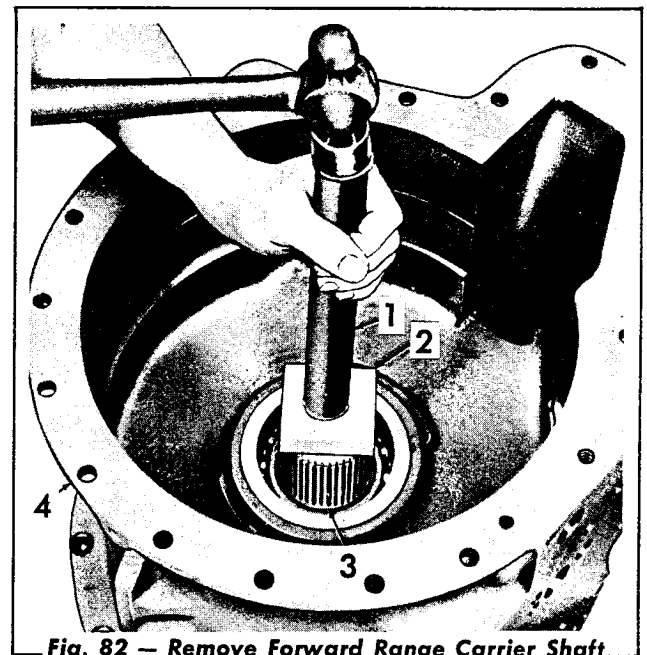

Fig. 82 — Remove Forward Range Carrier Shaft
20. Using a soft drift (Fig. 82) and block, tap